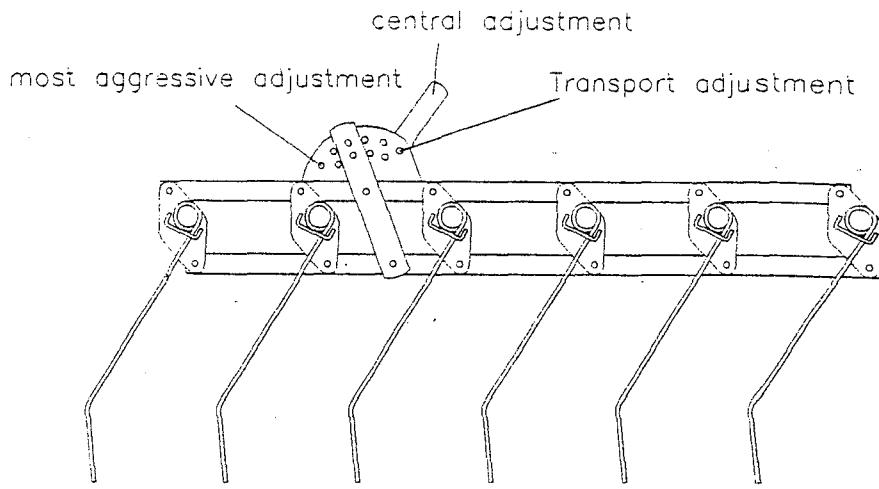

Fig. 3
2. Remove the locking pin **Ref. A** Fig. 3 at the base of the adjusting handle
3. Operate the adjusting handle **Ref. B** Fig. 3 to increase / decrease the aggressiveness of the tines, there are ten possible settings. The flatter adjustment will produce less vigorous weeding than the steeper adjustment.